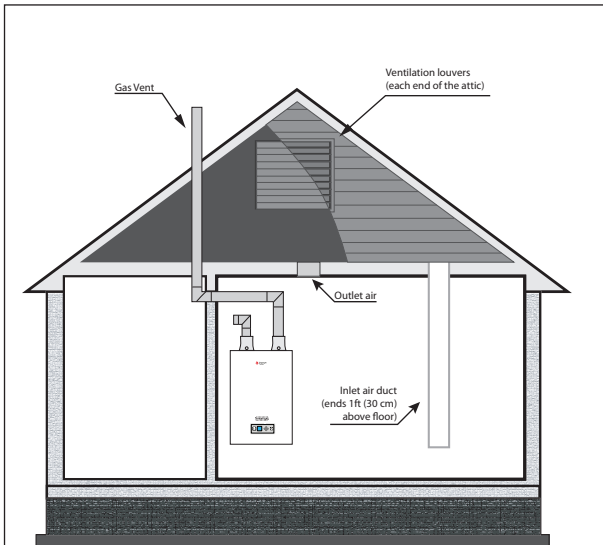

Fig. 3 - All Combustion Air from Outdoors Through Ventilated Attic
- Where directly communicating with the outdoors or where communication to the outdoors is through vertical ducts, each opening shall have a minimum free area of 1 sq. in./4000 Btu/hr [645 mm2 per 1,172 W] of total input rating of all equipment in the enclosure. See Fig. 3 below.